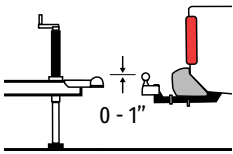
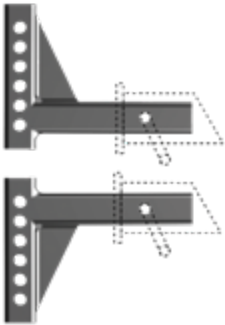

Figure 2
Figure 3
3. Slide the hitch head onto the shank with the top of the hitch ball between 0 – 1" above the top of the trailer coupler. (Figure 2) In some cases you may need to turn the shank upward or use a bigger rise/drop Equal-i-zer shank to place the hitch ball at the correct height. (Figure 3)